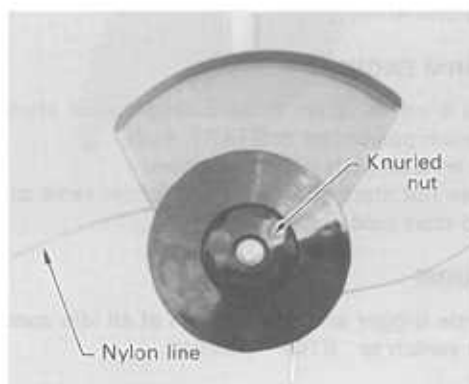

Fig. 1
- Loosen the large knurled nut in the direction of the arrow by approximately one turn. See Fig. 1